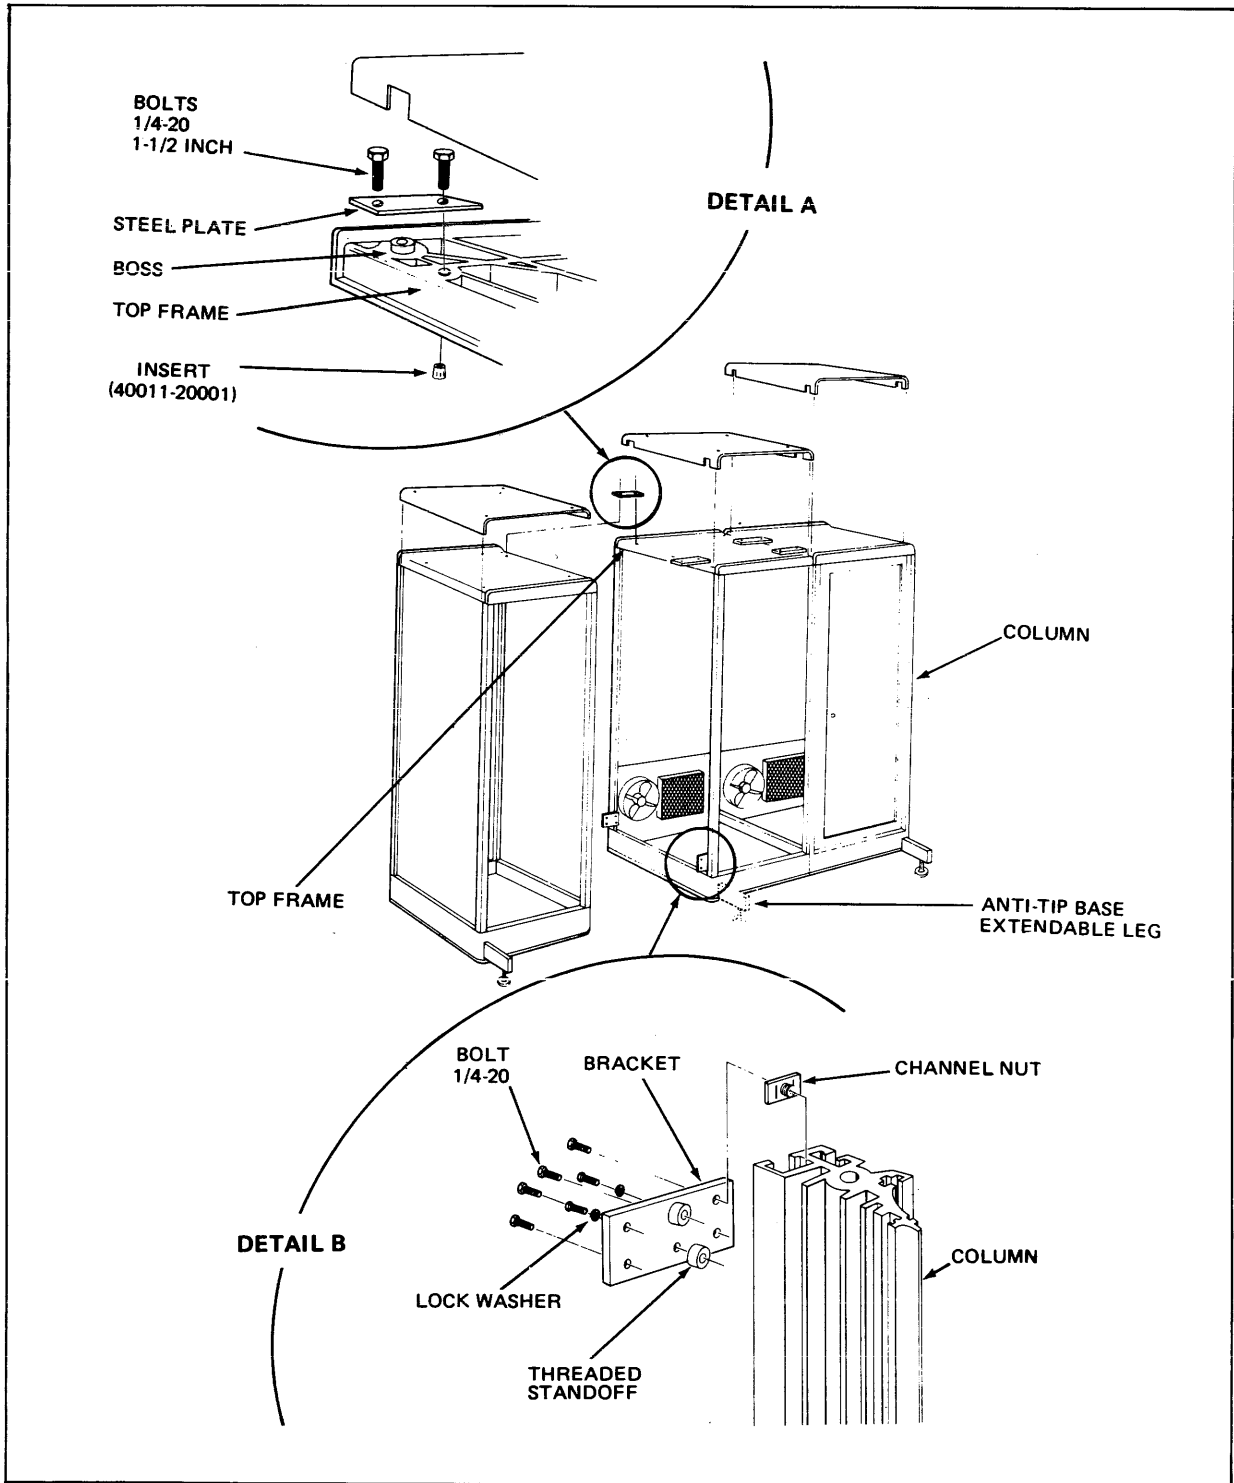

Figure 2-6. Tie-Together Kit Installation
2-11. MECHANICAL. Locate the HP Accessory Number 40011A Tie-Together Kit in a packet within the CPU cabinet, then follow the instructions below and refer to figure 2-6.
2. Install Insert Part Number 40011-20001 into a top frame then insert a bolt (1/4-20 × 1-1/2 inch) through a steel plate, through that top frame and into the Insert, as shown in figure 2-6 detail A.
5. Find two channel nuts in a support column, left there during system testing and prior to shipment, as shown in figure 2-6 detail B.
6. Install two bolts (1/4-20 × 1-1/2 inch) into a bottom bracket and into threaded standoffs, as shown in figure 2-6 detail B.